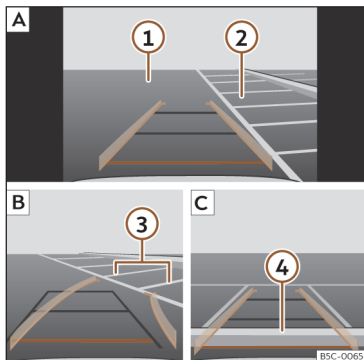

Fig. 161 Display on the infotainment system screen: parking with the reverse assistant.
Key to >>> **Fig. 161:**
- Stop the vehicle in front of the parking space >>> **Fig. 161 2 A**.